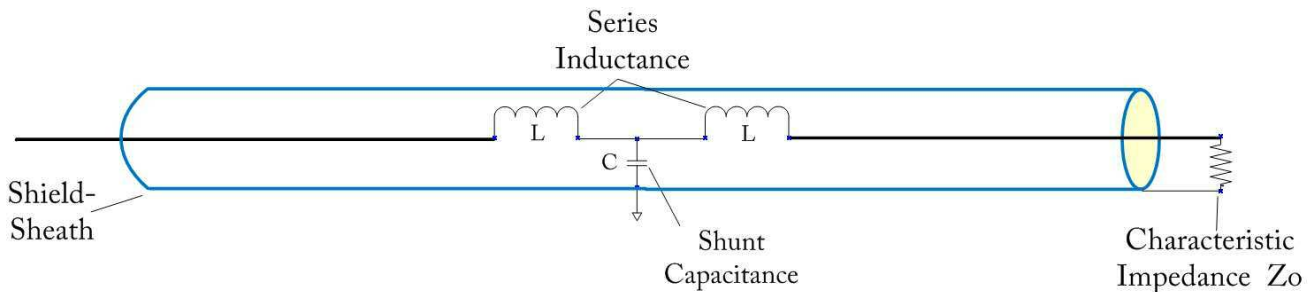

Figure 3: Simplified Equivalent Coaxial Cable
Now examine Figure 3. Since the resistive (R) and conductive (G) components in modern coaxial cable are relatively low compared to other factors, the first Z_0 formula can be simplified to $Z_0 = \sqrt{L/C}$ for a lossless line. Note that the ratio of L/C must remain approximately 5625 to yield a Z_0 of 75 ohms for cable television application. This ratio between series inductance and shunt capacitance arises from the ratio of the spacing between the inner and outer conductors plus the type and quality of dielectric material. This yields a 3rd formula which will be familiar to many of you.